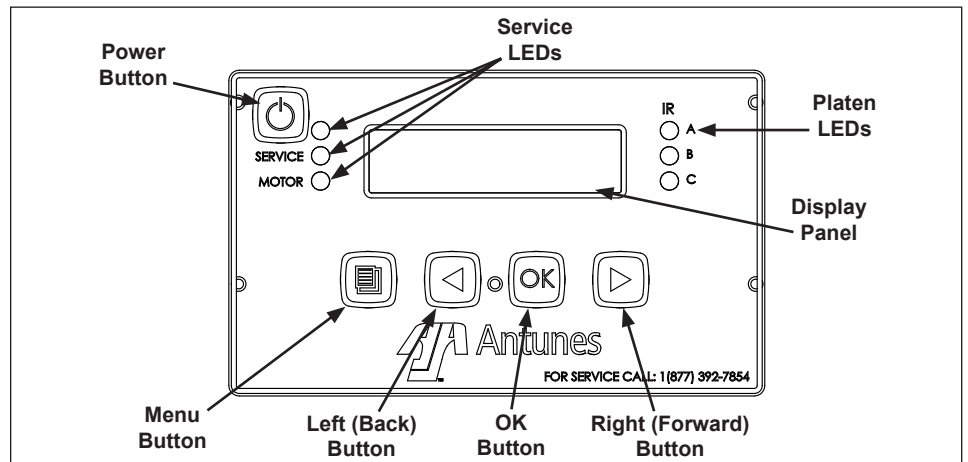

Figure 4. HRT-4H Control Panel
2. Use the **LEFT** and **RIGHT** arrow buttons (Figure 4) to scroll through the settings, which appear in the following order: